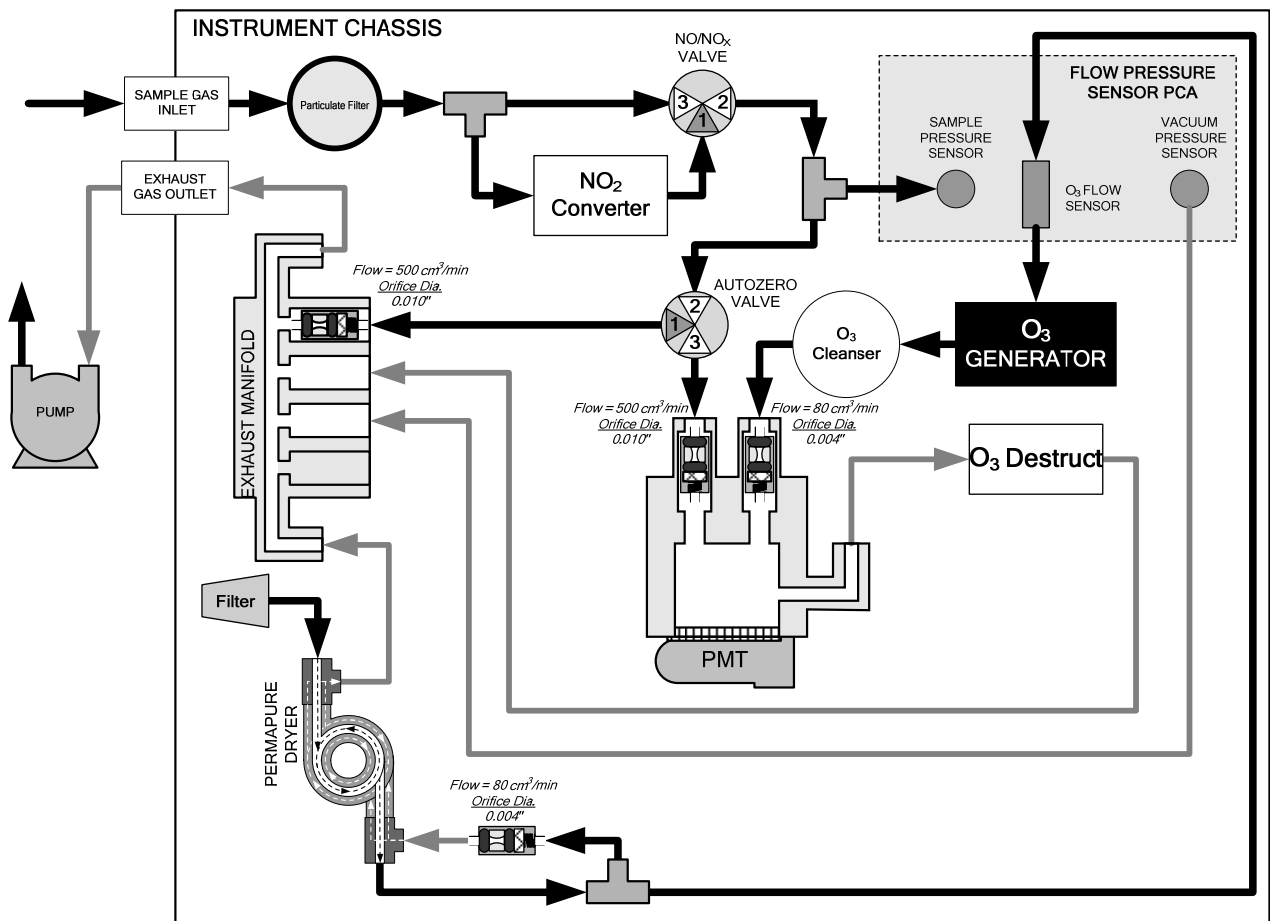

Figure 13-5: Internal Gas Flow for Basic 9110T with External Pump
- An external pump pneumatically connected to the analyzer's exhaust port located on the rear panel. This is the most common configuration for the 9110T (see Figure 13-5), or;